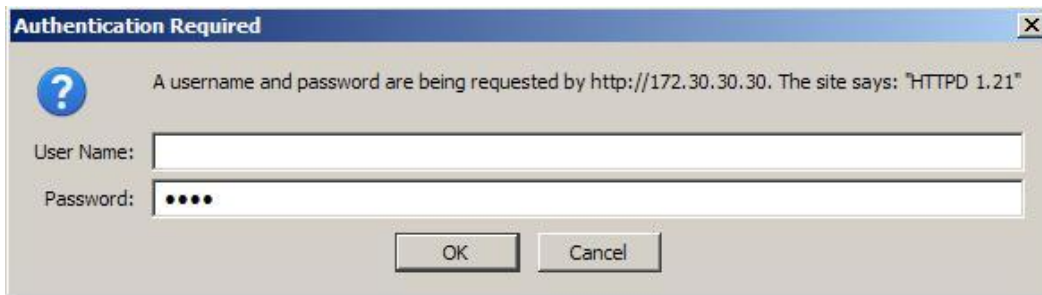

Figure 28 Web browser log in screen.
4. If there is connectivity an MX log-in screen will be displayed (see Figure 28). Leave the name field blank and type four zeros (or the current password) in the password field and click OK.